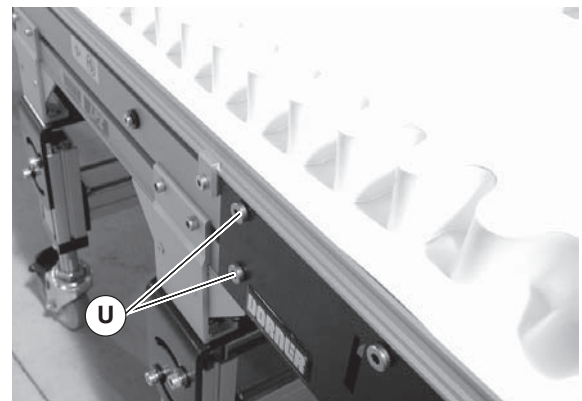

Figure 45
4. Re-tighten the head plate fastening screws (Figure 45, item U) with a 5 mm hex-key wrench to 100 in-lb (12 Nm).